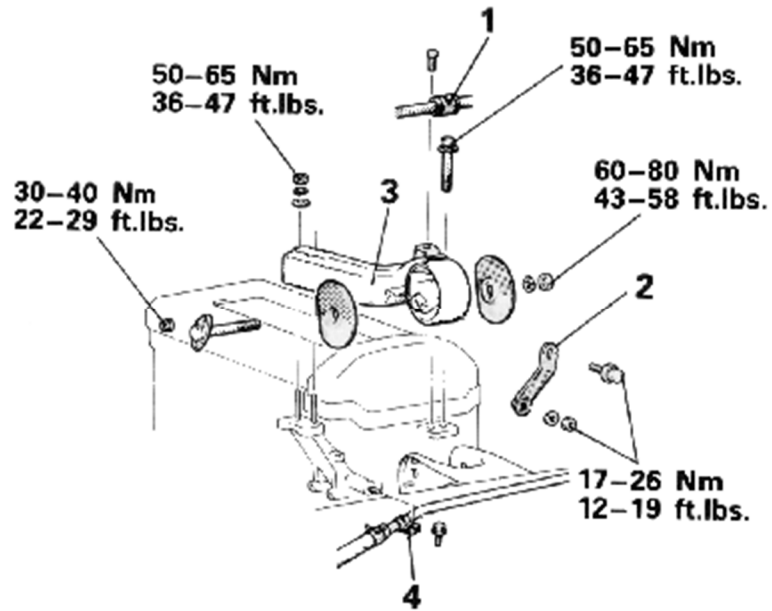

Figure 20
52. Install left front engine mount and bracket and torque to the specifications shown in Figure 20.